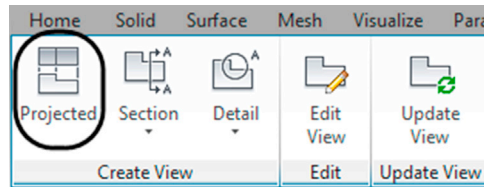

FIGURE 27.12 Drawing View tab, Projected.
Step 1. Select, by clicking once, whichever of the existing projections you would like to use as the “parent” projection in order to generate some new ones. In this example, the front view in the middle is chosen. Once it is clicked on, the Ribbon changes to the Drawing View tab. Select the Projected icon, as seen in Fig. 27.12.
Step 1. Select, by clicking once, whichever view you want to section—the main view in the center in this example. The Ribbon once again changes to the Drawing View tab seen in Fig. 27.12. Select the Section icon, just to the right of Projected. As you drop down the menu, take note of the five types of sections available: Full, Half, Offset, Aligned, and From Object. We try only the Offset one, leaving the rest for you to practice. They all work on the same principle. Click the Offset option and the Ribbon changes to the Section View Creation tab.
Step 1. Select, by clicking once, whichever view you want to section—the bottom of one of the side projections on the right is chosen in this example. The Ribbon once again changes to the Drawing View tab seen in Fig. 27.12. Select the Detail icon, just to the right of Section. As you drop down the menu, take note of the two types of details available: Circular and Rectangular. We try only the Circular one, leaving the Rectangular one for you to practice. They all work on the same principle. Click on the Circular option and the Ribbon changes to the Detail View Creation tab.